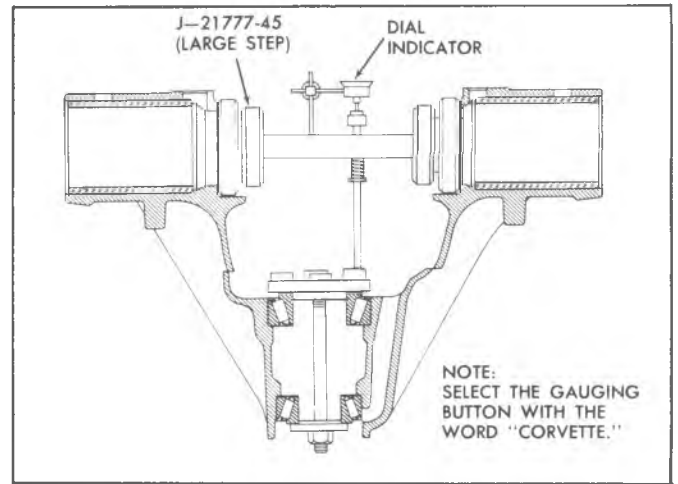

Fig. 22C—Pinion Depth Gauging Tools Installed
11. Rock the plunger rod slowly back and forth across the button until the dial indicator reads the greatest deflection. At this point, set the dial indicator to zero. Tools will now be positioned as shown in figure 22C.